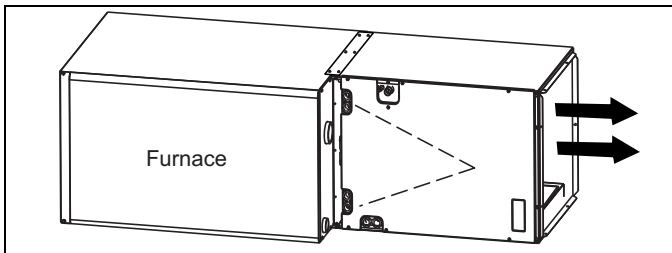

FIGURE 7: Horizontal Right Application with Furnaces
2. Position the coil and furnace as shown in Figure 7.
4. Check for air leakage between the furnace and coil casing and seal appropriately. Three mounting plates are provided with the coils. The mounting plates must be used to secure the top edges of the furnace and coil together. See figures 7 and 8.